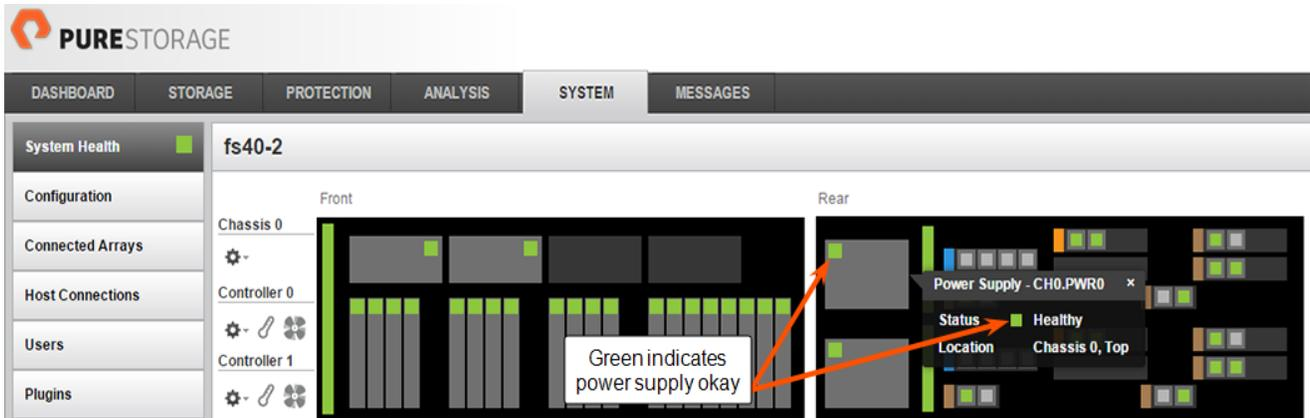

Figure 1-8. GUI Indication of Functional PSU
1. Request that the customer or Pure Storage Technical Support representative use the Purity GUI or CLI to verify the replacement. See Figure 1-8 for an example of GUI indicators and Figure 1-9 for an example of CLI indicators that reflect an operational power supply.